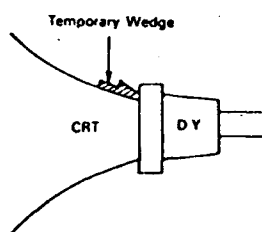

FIGURE 5
4. Move the two Purity Magnets and bring the Magenta belt to the mechanical center of the screen (See Fig. 5) The vertical center position should be set VRS to $-5/64$ " (-2 MM) as shown in Fig. 6.
10. Insert the temporary wedge as shown in Fig. 5 and adjust the angle of Deflection Yoke.